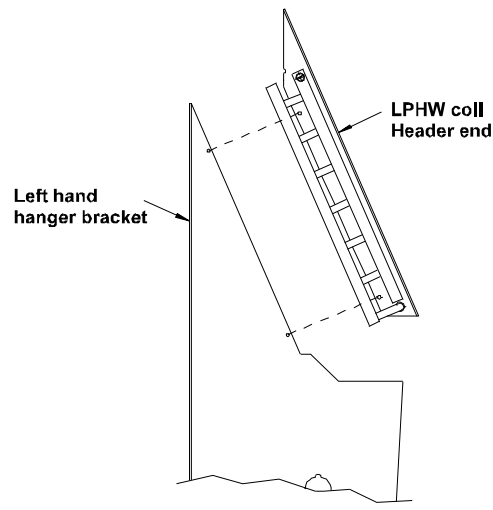

Fig. 2.
- 6 Position the end of the LPHW coil into these slots and secure the left hand end plate to the left hand hanger bracket, (Fig. 2).